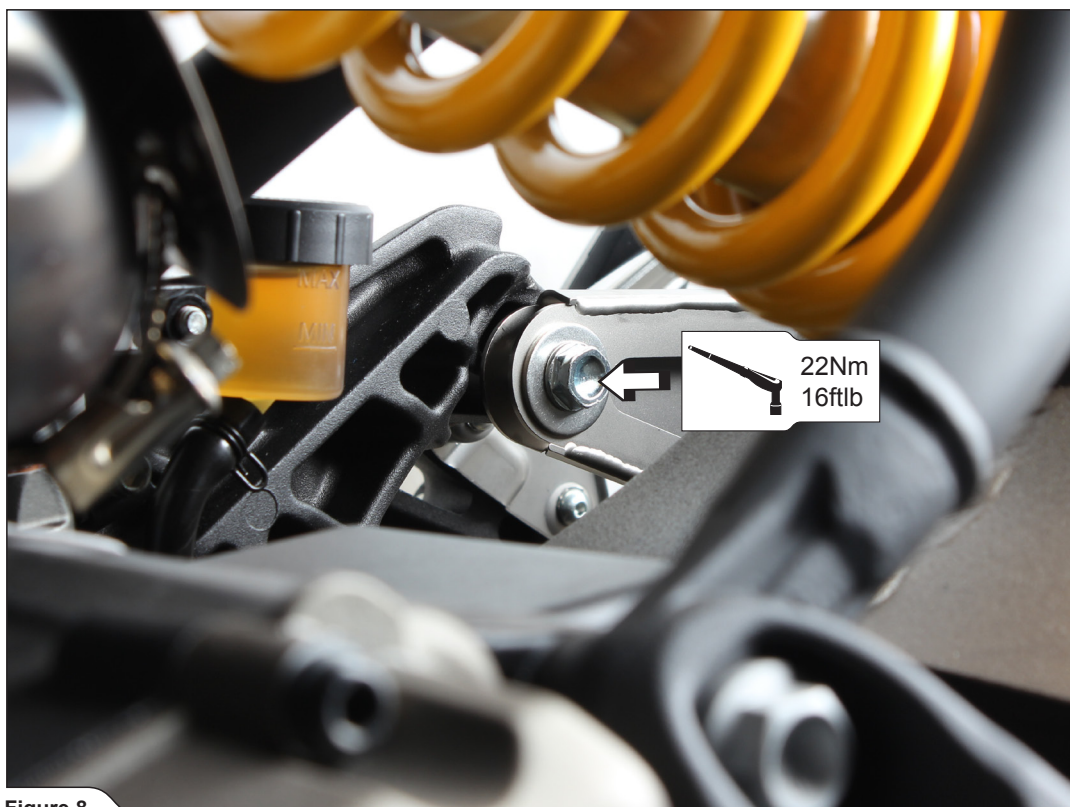

Figure 8
4. Align the muffler in respect to the motorcycle and tighten the muffler bracket bolt (using bolt and washer from Akrapovič installation kit), Akrapovič clamp and stock clamp to the specified torque (**Figure 8, 9, 10**).